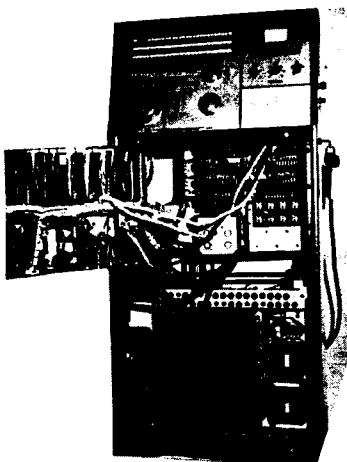

FIG. 20.1.2.
20.1.2. Mount the PT into the control cabinet. see fig. 20.1.2.